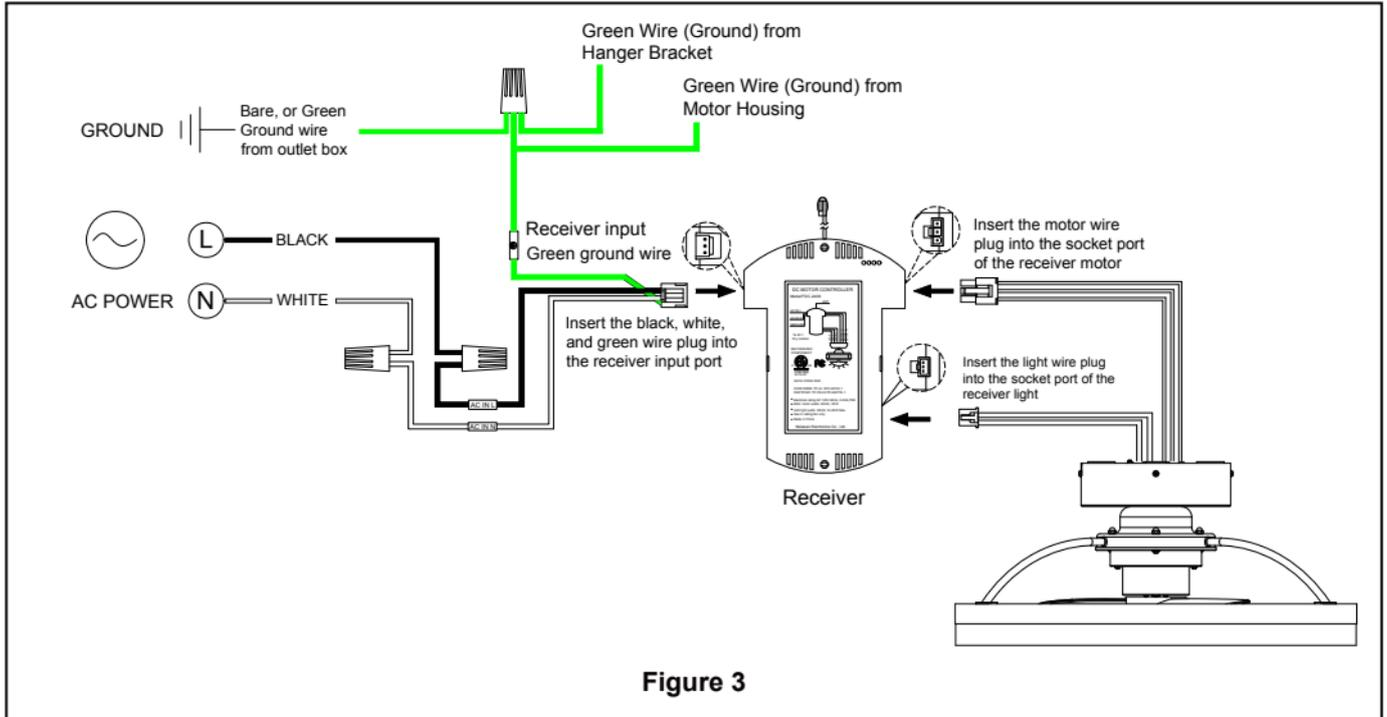

Figure 3
3. Connect green wires from Receiver input Green ground wire from hanger bracket and motor housing to bare (ground) wire from outlet box. Connect black wire from Receiver input marked "AC IN L" to black (ungrounded) supply wire using wire connector. Connect white wire from Receiver input marked "AC IN N" to white (grounded) supply wire using wire connector. Connect the motor plug wire to the receiver output corresponding motor female socket. Connect the light plug wire to the receiver output corresponding light female socket. (Figure 3)